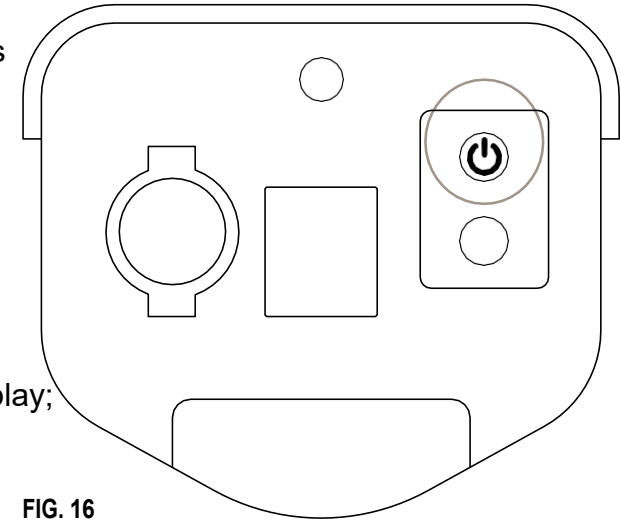

FIG. 16
3. Press and hold the button on the battery pack (FIG 16) for at least 10 seconds;